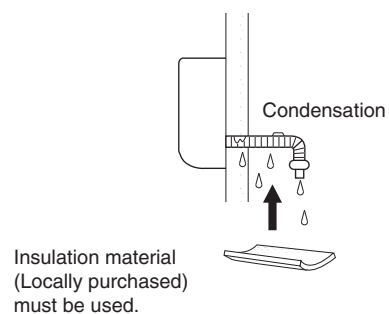

Fig. 3-36
- If the drain hose will run in the room, insulate the hose with insulation* so that chilled condensation will not damage furniture or floors. (Fig. 3-36)